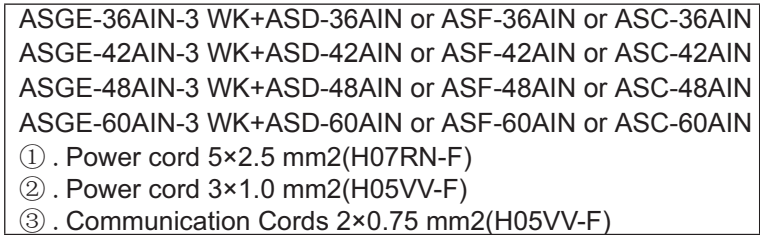

Figure 3-2-9
①	. The power cord and the wire of the fresh air valve are high-voltage, while the communication cord and connection wire of the wired controller are low-voltage. They should run separately against electromagnetic interference.
②	. The high-voltage and low-voltage lines should pass through the rubber rings at different electric box covers.
③	. Do not bundle the connection wire of the wired controller and the communication cord together, or arrange them in parallel, otherwise improper operation would occur.
④	. The high-voltage and low-voltage lines should be fixed separately and securely, with internal big clamps for the former and small clamps for the latter.
⑤	. Tighten the indoor/outdoor connection cord and power cord respectively on the terminal boards with screws. Faulty connection may cause a fire.
⑥	. If the indoor unit connection cord (to the outdoor unit) and power supply are wired incorrectly, the air conditioner may be damaged.
⑦	. Connect the indoor unit connection cord properly based on the corresponding marks as shown in Figure 3-2-9.
⑧	. Ground both the indoor and outdoor units by attaching a ground wire.
⑨	. Unit shall be grounded in compliance with the applicable local and national codes.